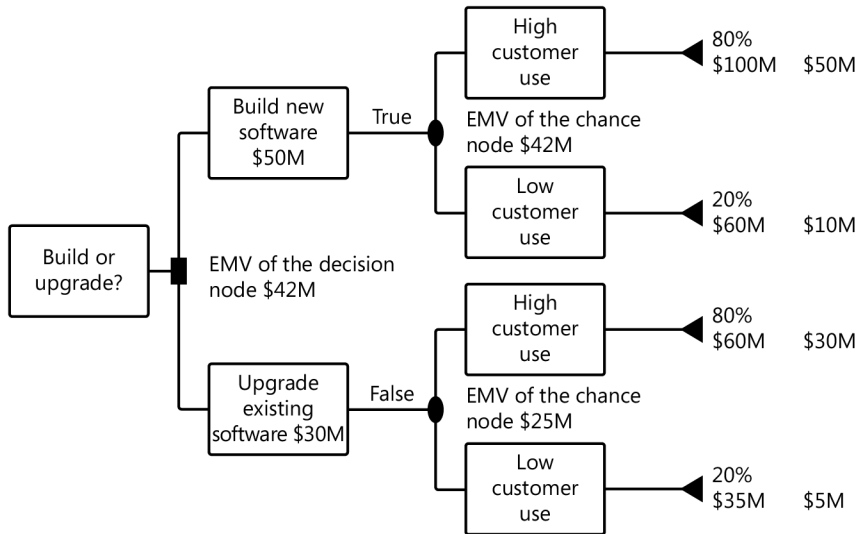

FIGURE 9-8 This decision tree analysis assesses the expected monetary value of building new software versus upgrading existing software.
- **Expected monetary value analysis (EMV)** A way to allocate quantitative numerical probability and impact to particular options and from this to arrive at what the expected monetary value of each option is. Depending on the calculated outcome, you would then be able to quantify your decision. The usual way of graphically representing the expected monetary value analysis is with the use of decision trees. In Figure 9-8, a decision tree shows the calculation of expected monetary value regarding whether to upgrade existing customer ordering software or to develop a completely new piece of software.
Figure 9-8 shows that for either decision there is an 80 percent chance of high customer use and a 20 percent chance of low customer use. If you decide to build new software, it will cost \$50 million, and if there is high customer use, you will make \$100 million, so there is an 80 percent chance of making a net figure of \$50 million. By the